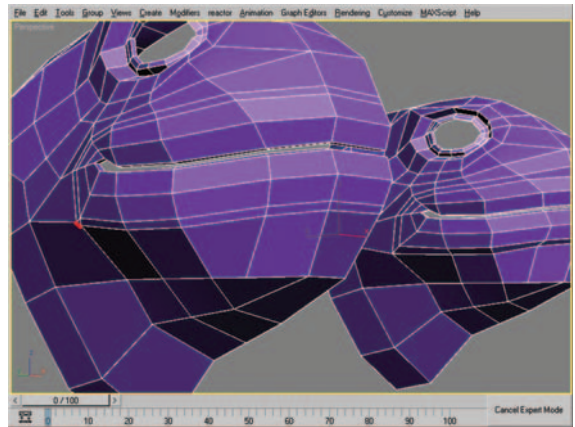

Figure 9.34 Edge before and after using Collapse.
35. Select the edge shown in Figure 9.34 and use Collapse to remove the Tri N -gon.